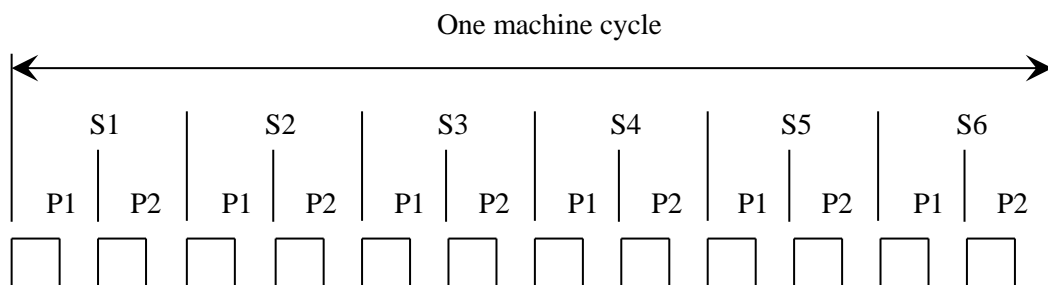

Figure 1.7: Relationship between oscillator clock cycles, states and machine cycle
With the oscillator as reference, the 8051 requires two clock cycles to perform a single discrete operation, which is either fetching an instruction, decoding, or executing it. This duration of two clock cycles is also called a state. Therefore, in order to fully process an instruction, the 8051 would generally require 6 such states, or 12 clock cycles since it would have to first fetch and decode the instruction before it goes to execute it. This duration of six states is also known as one ‘machine cycle’. **More complex instructions would take more than one machine cycle to be carried out. This number ranges from one to four machine cycles.** The Figure 1.7 shows the relationship between clock cycles (P), states (S) and a machine cycle.